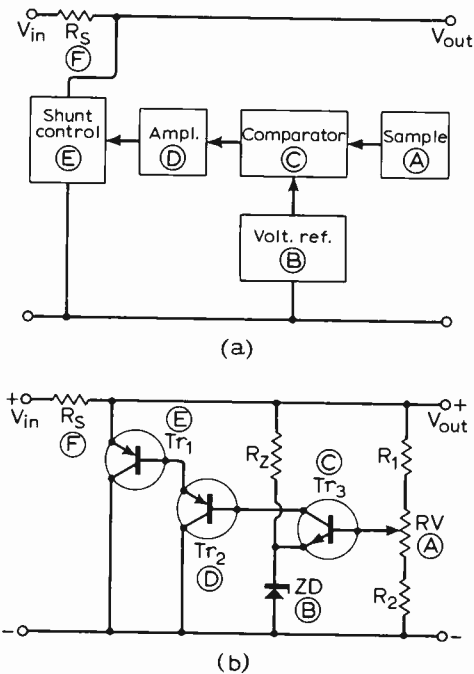

Fig. 4. Shunt voltage regulator with feedback control. (a) Basic system in block form; (b) the circuit diagram corresponding to the basic system
In Fig. 4(a) the basic system for a shunt feedback regulator is illustrated in block schematic form. The output voltage is is
With transistors, the system of Fig. 4(a) could be realized in a circuit such as Fig. 4(b), where a fraction of the output voltage is selected by the potentiometer, RV (A), and applied to the base of the transistor, Tr_3 (C). The emitter of Tr_3 is connected to the zener diode, ZD , reference voltage (B). The difference between these two voltages controls the collector current in the transistor, Tr_2 (C), which is applied to the Darlington-pair transistors, Tr_2 (D), and Tr_1 (E). The current in the shunt transistor (E) is therefore controlled by the output voltage. The feedback loop thus operates to keep the output voltage constant.
Feedback-controlled regulation has been illustrated in Fig. 4 with shunt control, but in practice series feedback regulation is much more common. The basic system for this is outlined in Fig. 5(a) in block form. Here the output voltage is sampled by (A), compared in (C) with the reference voltage (B), and the difference signal controls the amplifier (D) to drive a series control element (E). The series pass element keeps the output voltage constant irrespective of changes in input voltage or of output load changes.